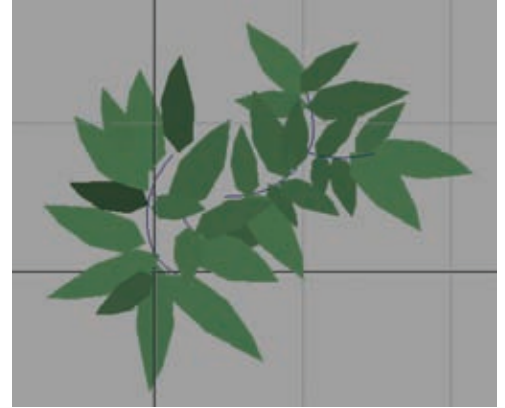

Figure 2.30
3. Start duplicating and positioning your leaves around the clump of curves (representing branches), scaling and rotating them (to diminish their uniformity), with the intention of creating a scattered leaf/branch combination of details, similar to Figure 2.30.